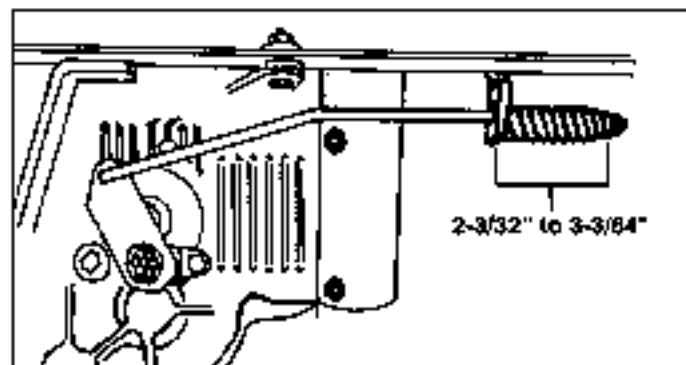

Figure 29. Brake Adjustment - Hydro Models
2. See figure 29. The brake rod spring should measure 3" (2-3/32" to 3-3/64") when compressed. Turn the adjustment nut to achieve correct spring length.